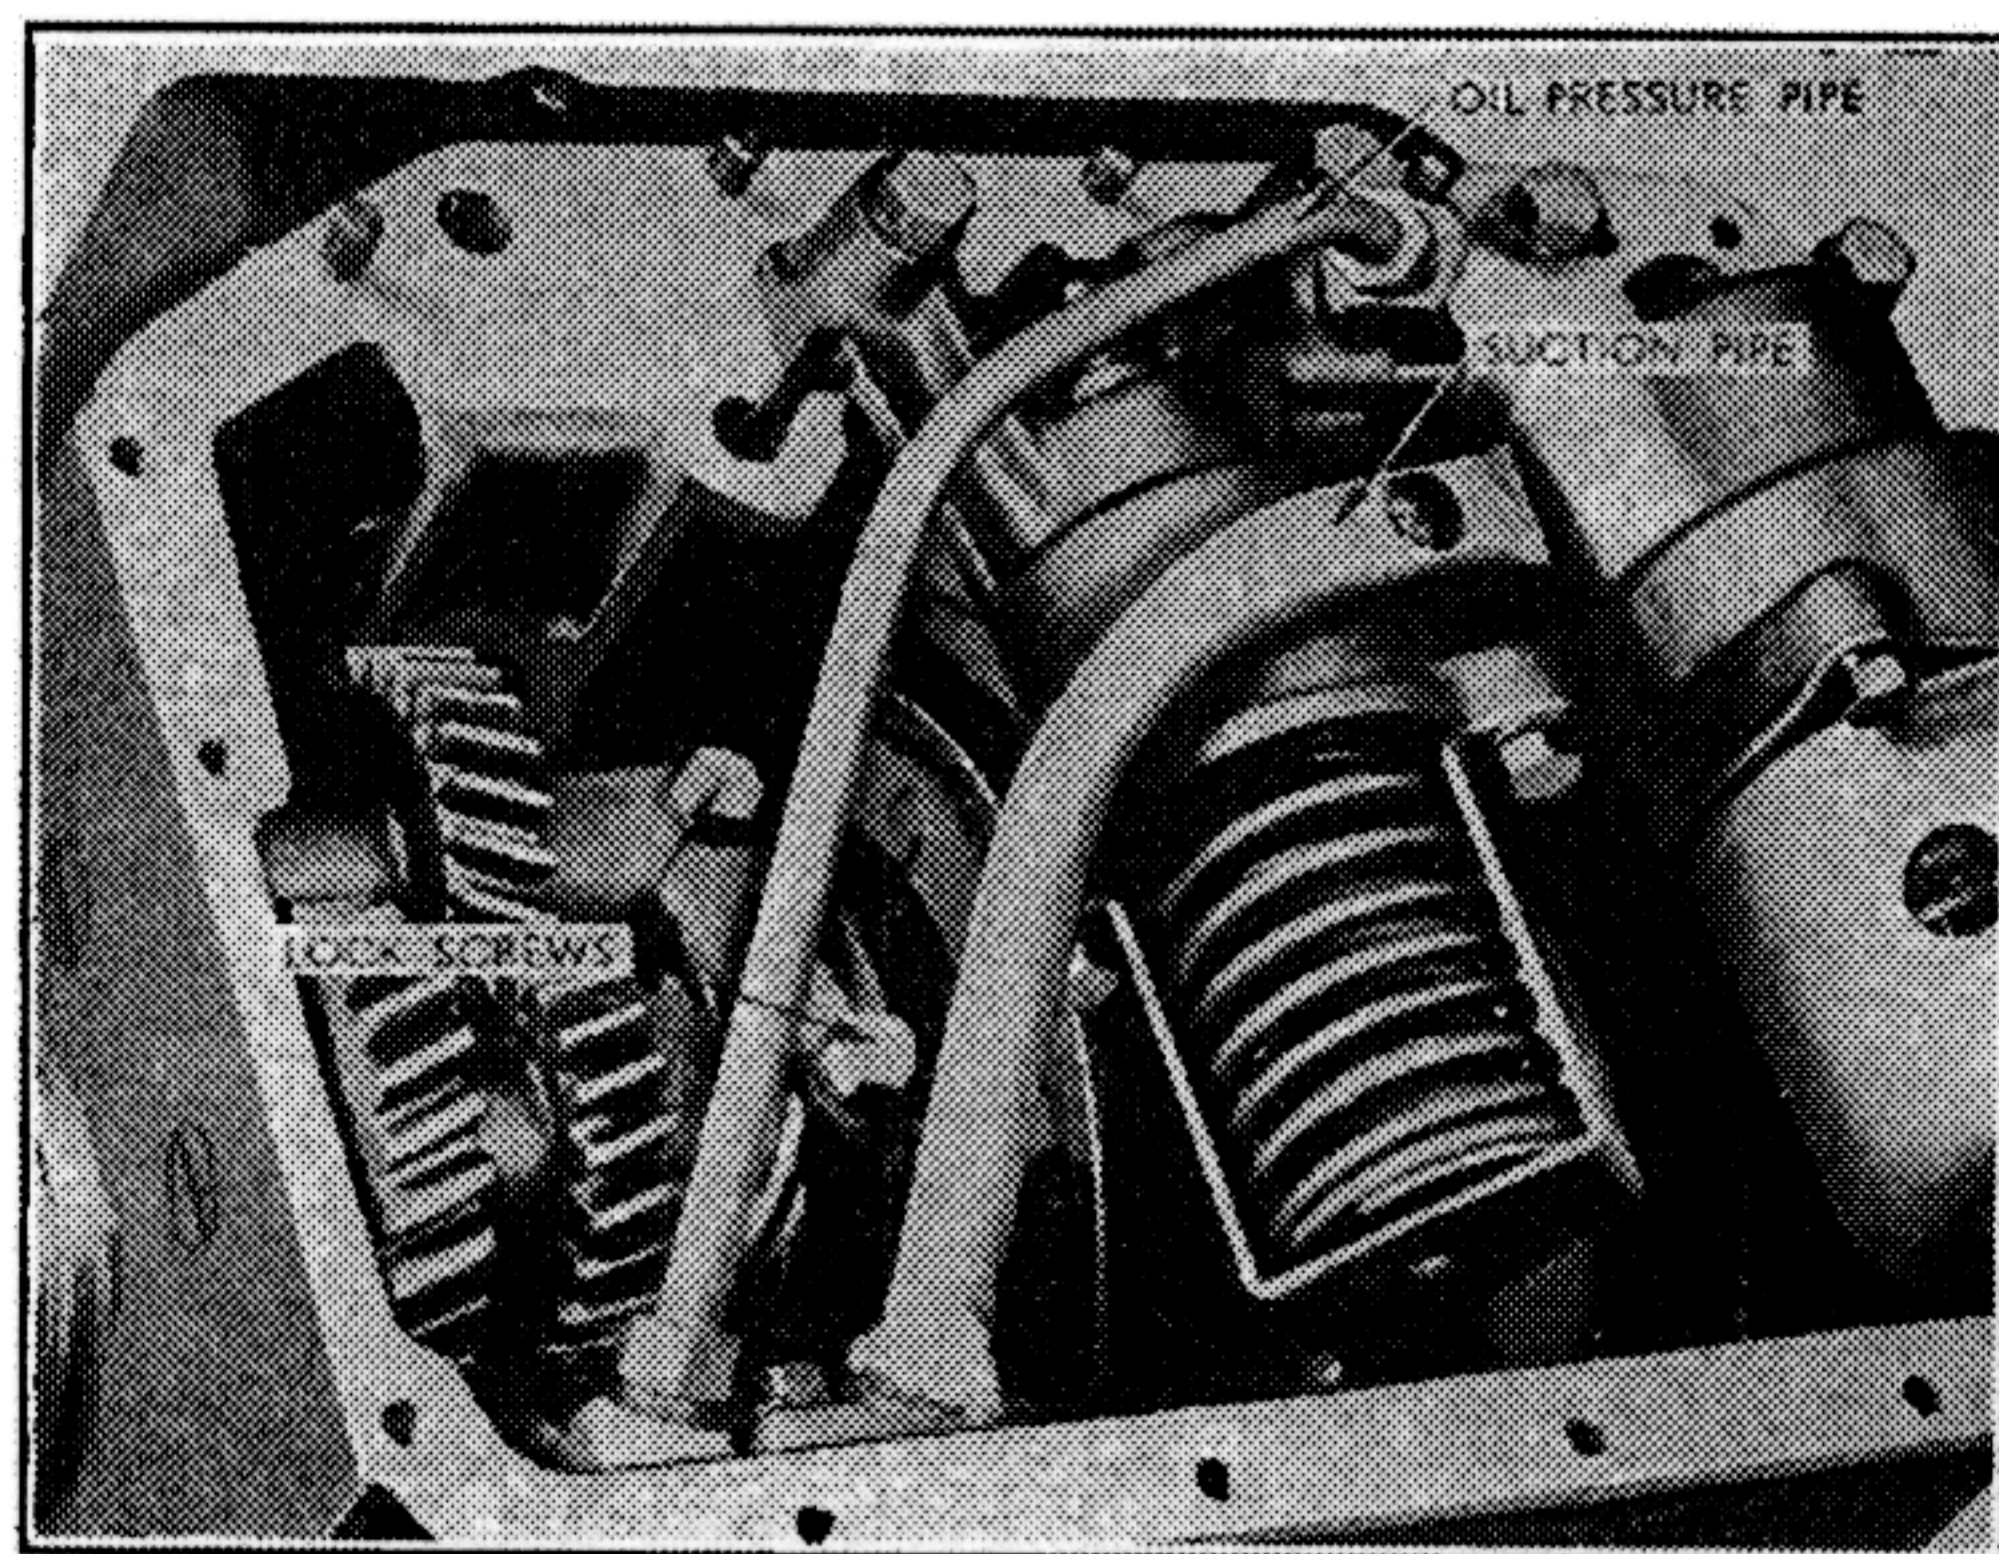

Fig. 8. Oil Pipes and Shaft Lock Screws
3. Remove oil pressure line (oil pump to front servo). See Fig. 8.
4. Remove oil suction pipe. See Fig. 8.